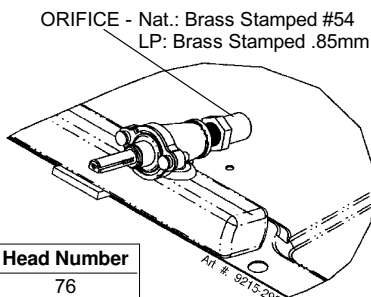
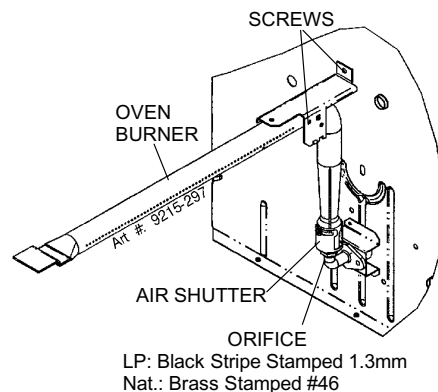

FIGURE 3
FIGURE 4
- Adjust top burners (see figure 3).
- Remove all (4) surface burners.
- Remove all (4) orifice hoods from the valve by using a 1/2" wrench or socket and turning the hood counter- clockwise.
- Replace with the brass colored hoods stamped .85 mm by using a 1/2" wrench or socket and turning the hood clockwise approximately (6) complete turns.
- Adjust oven burner (see figure 4).
- Remove the oven burner by removing the screw from the pilot bracket and the oven burner bracket (see figure 4). Use caution in removing pilot bracket.
- Replace with orifice hood with a black stripe stamped 1.3 mm using a 1/2" wrench or socket and turning the hood clockwise approximately (6) complete turns.
- Replace with the brass colored hoods stamped .54 by using a 1/2" wrench or socket and turning the hood clockwise approximately (6) complete turns.
- Close the air shutters on the burners so that 1/4" of the square hole is covered (see figure 4).
- Remove the oven burner by removing the screw from the pilot bracket and the oven burner bracket (see figure 4).
- Replace with orifice hood with a brass hood stamped #46 using a 1/2" wrench or socket and turning the hood clockwise approximately (6) complete turns.